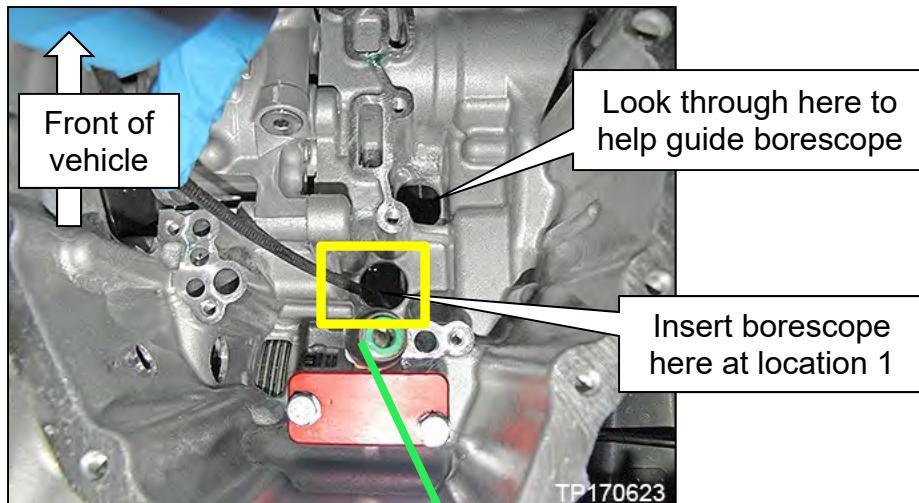

Figure 32
- c. Insert the borescope where shown in Figure 32 as follows: